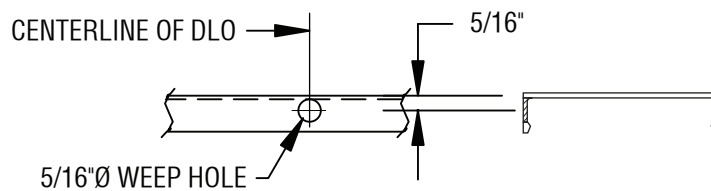

FIGURE 6
- 1.6 Drill 5/16" diameter weep holes at centerline of DLO in face cap in intermediate horizontals only. **SEE FIGURE 6, page 9**.